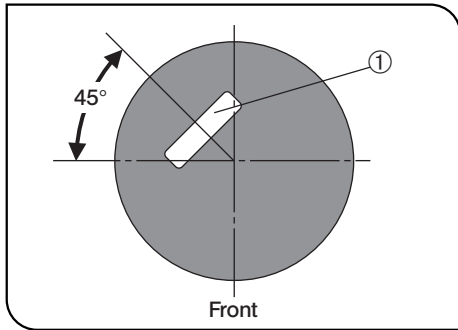

Fig. 3
(Fig. 3)
2. To enable observation, the slit ① of the RC slider must be adjusted to the position as shown in Fig. 3. Use the following procedure for the adjustment.
- Turn the slit frame to the position shown in Fig. 3.